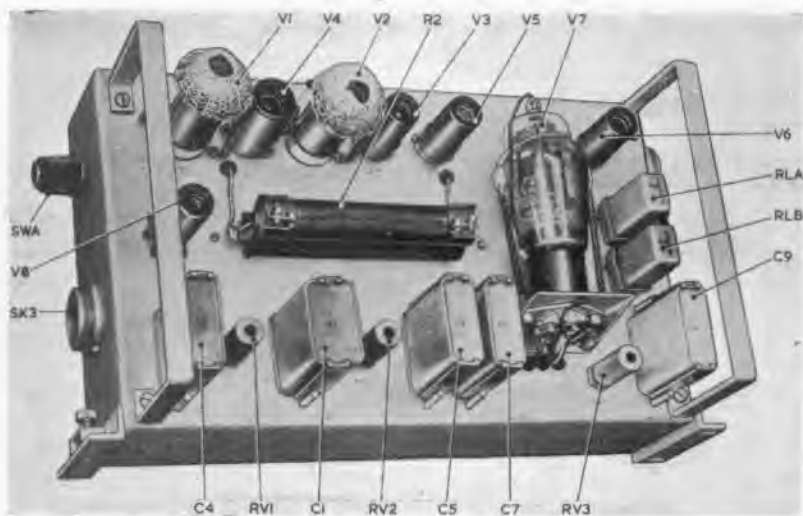
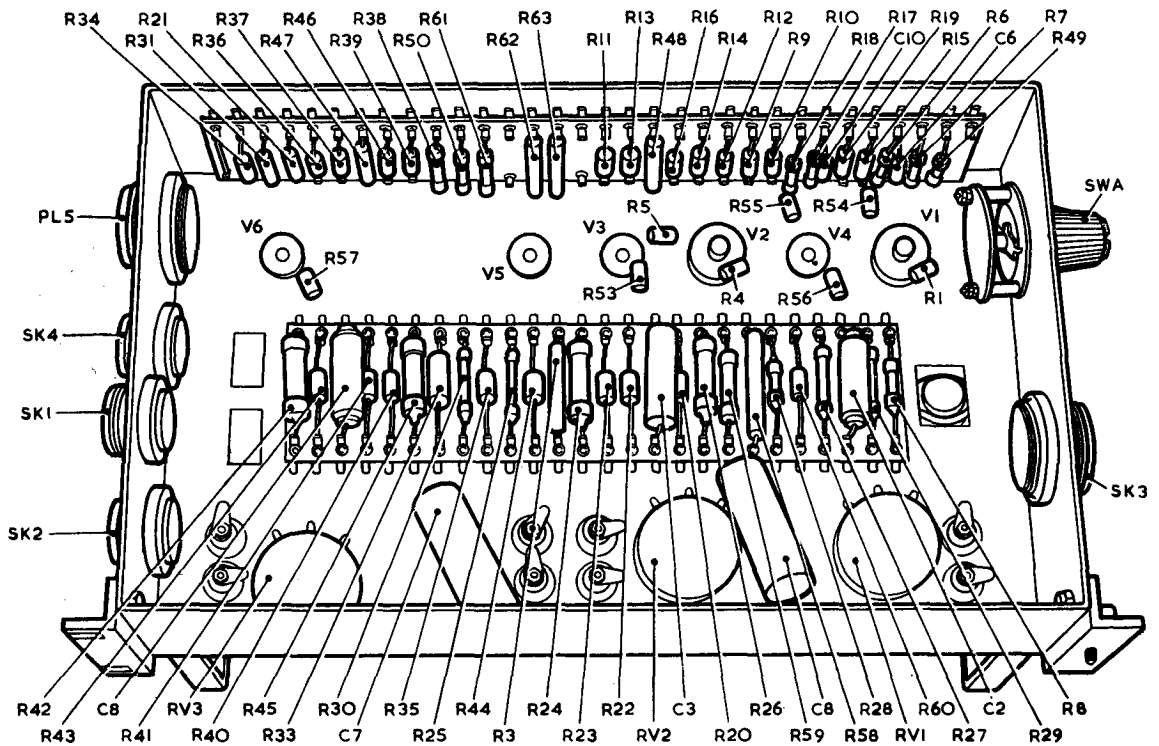

Fig. 2. Voltage stabilizer—general view
Fig. 3. Voltage stabilizer Type 51—under-chassis component layout
5. A closer view of the unit, showing the layout of the valves, is given in fig. 2, and fig. 3 is an under-chassis drawing for use as a guide to the layout of components, plugs and sockets.